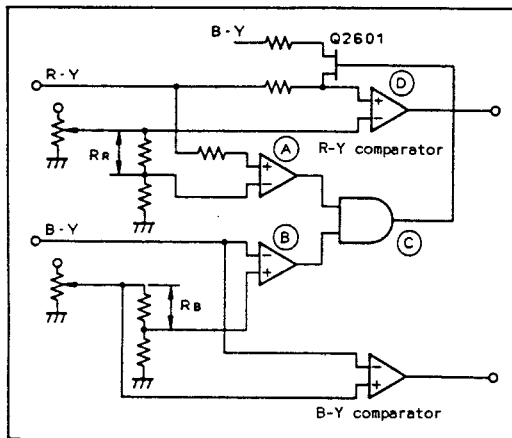

Fig. I-18
(2) Yellow detection circuit
Fig. I-18 shows a block diagram of the yellow detection circuit. On input of yellow signal, each output of comparators (A) and (B) becomes positive. As a result, output of (D) (AND circuit) also becomes positive to turn on Q2601.